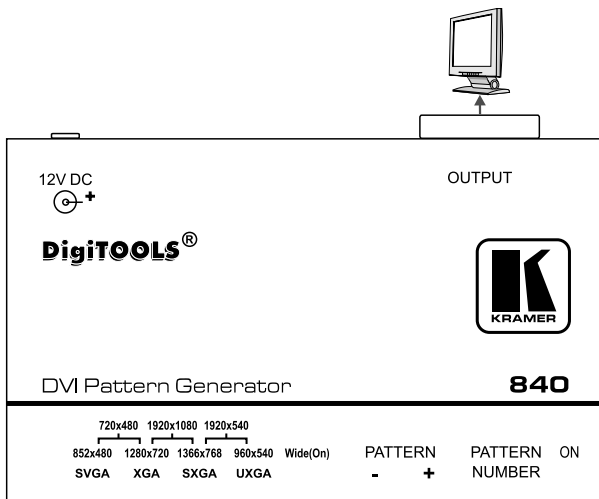

Figure 2: Connecting the 840 DVI Pattern Generator
1. Connect the OUTPUT connector to a DVI acceptor, for example, a flat panel LCD display (as Figure 2 illustrates), or a projector or plasma screen.